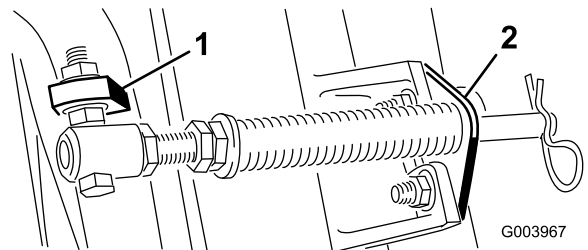

Figure 6
Note: Position to the bolt head to the outer side of the tab as shown in Figure 6.
- D. Mount the rod bracket to the cutting-unit tabs with the carriage bolts and nuts (Figure 6).